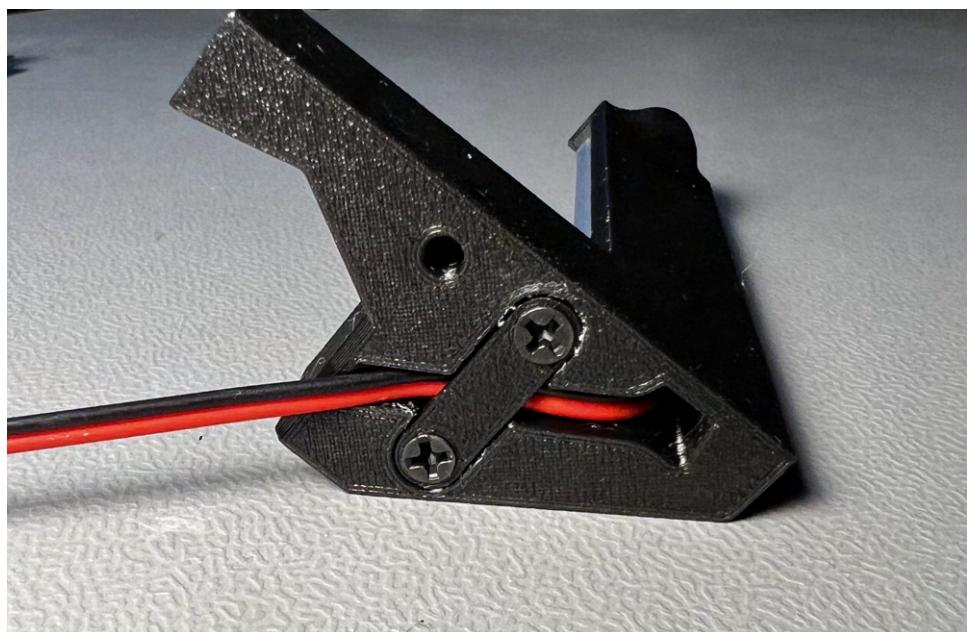

Figure 12: Strain relief installed on light holder.
3. Now it's time to install the strain relief for the wiring. Utilize the printed strain relief and two self-threading screws to mount it, just like demonstrated in Figure 12.